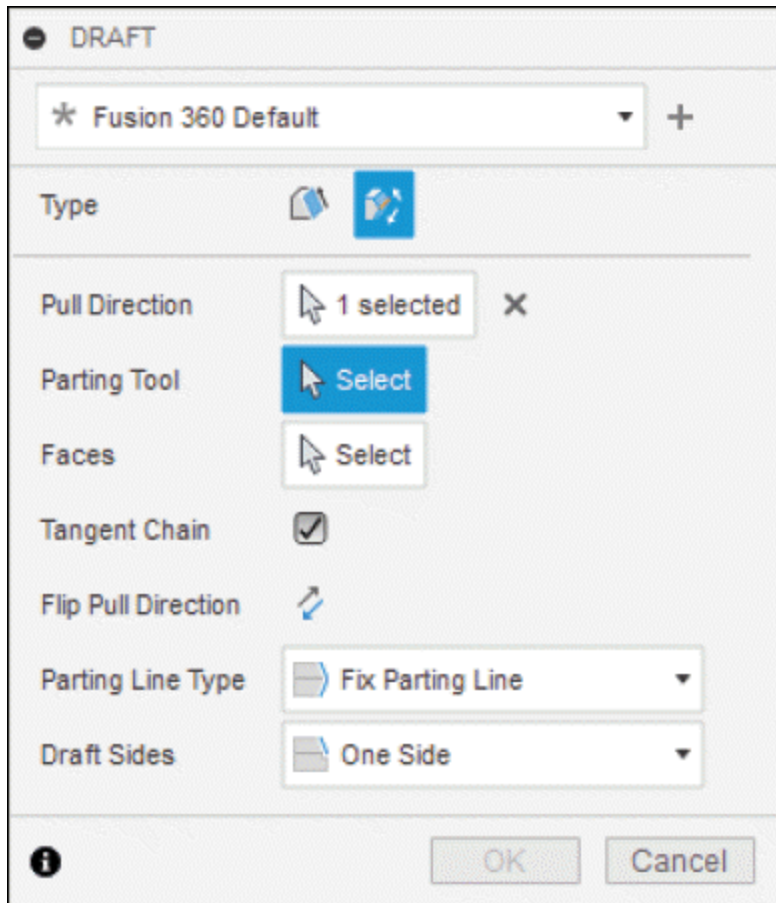

Figure-31. Updated DRAFT dialog box
- Select **Parting Line** draft type from **Type** section of the dialog box to create draft along a parting line. The updated **DRAFT** dialog box will be displayed; refer to Figure-31.